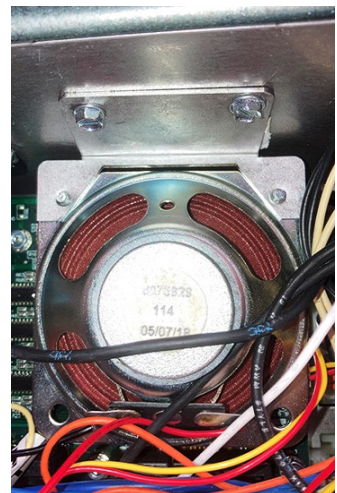

Figure 18
17. Rotate the speaker 180 degrees so the speaker is facing the rear of the component box and reattach the bracket to the component box using the screws and the existing holes (see Figure 18).